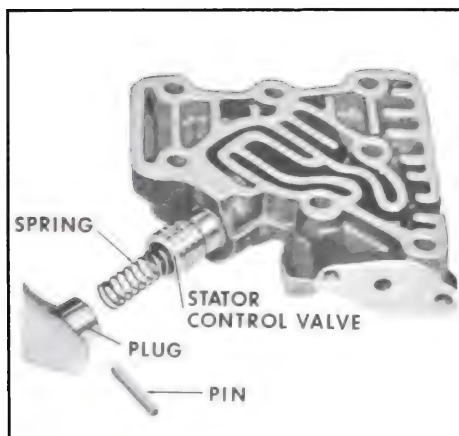

Figure 5-176
1. Compress stator control valve plug. Turn valve body over and retaining pin will fall free. Remove plug, spring and valve from body. See Figure 5-176.